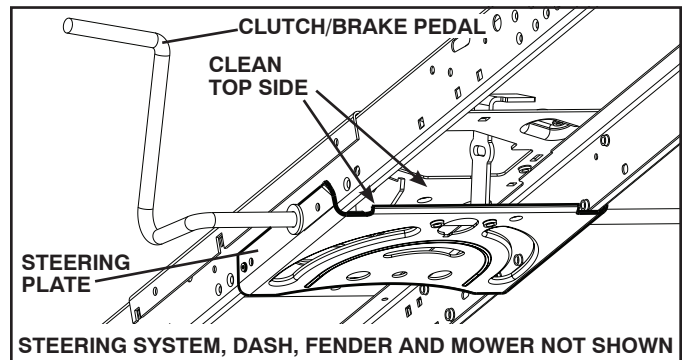

Fig. 34
- Clean debris from steering plate. Debris can restrict clutch/brake pedal shaft movement, causing belt slip and loss of drive. See Fig. 34.